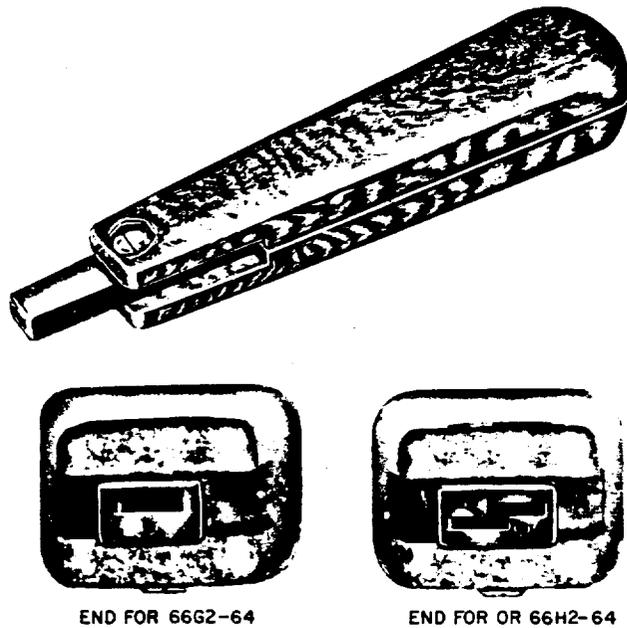

Figure 7. 714E2 Tool
2.13 The 714E2 insertion tool (Comcode 101285344, Figure 7) consists of a plastic handle containing a metal insertion blade. The blade is reversible, using a screwdriver for terminations on either twin or single quick-clip terminals.